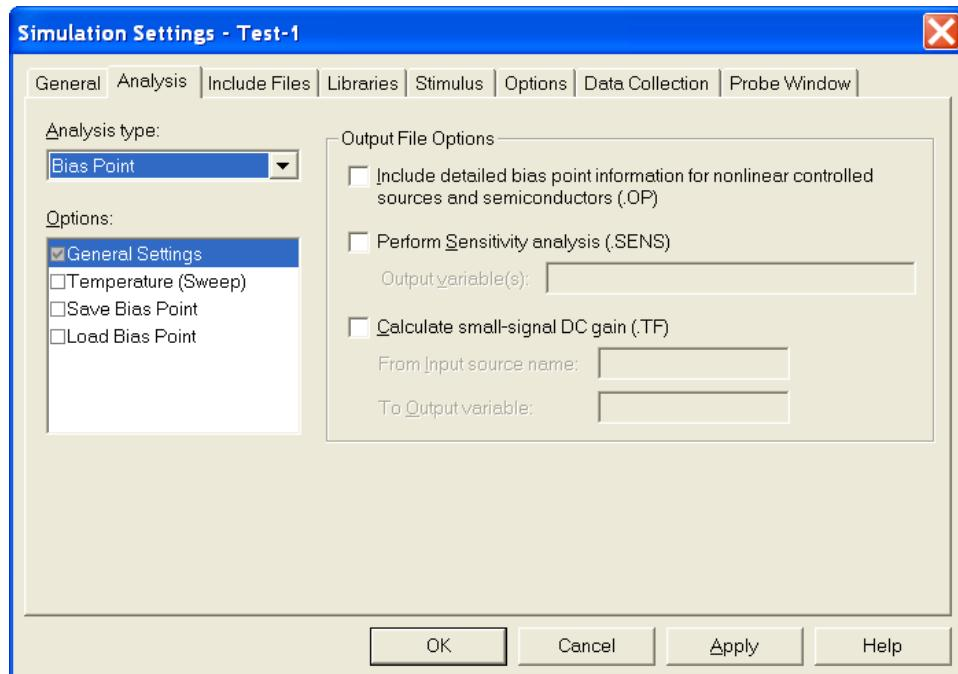

图 12. Be sure select “Bias Point”
- 2) This time we only test the static voltage and current. Therefore be sure to select “Bias Point”, and then “OK” . (图 12)